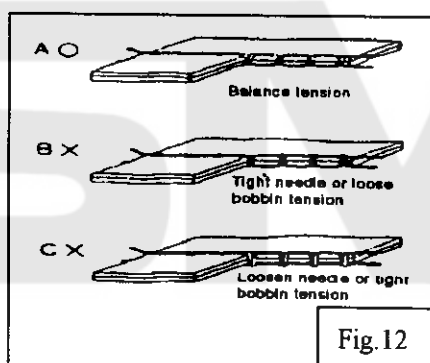

Fig.12
8. Balance of thread tension (Fig.12):